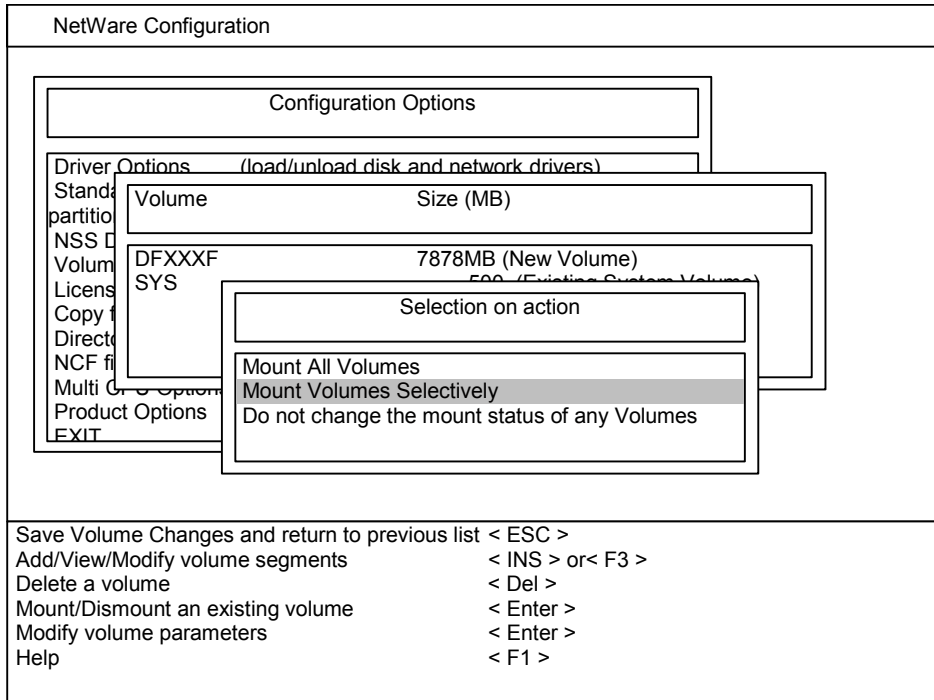

Figure 3.17 Selecting the Desired Mount Action
4. You are now prompted to select the desired mount action (see Figure 3.17). Select either **Mount all volumes** or **Mount volumes selectively** as desired.